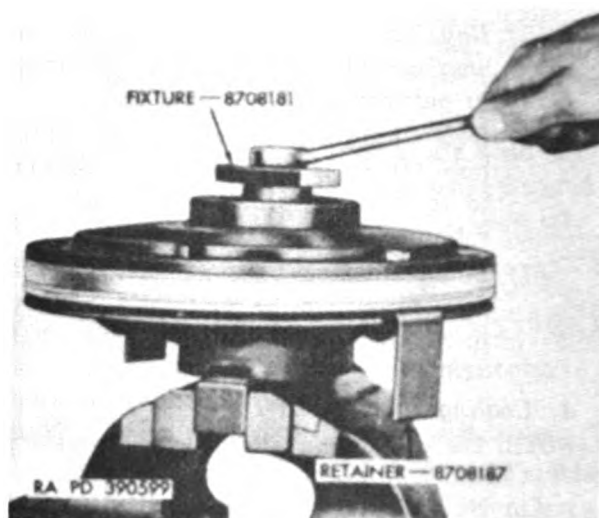

Figure 95. Assembling cooling fan drive clutch.
- (10) Clamp fixture 8708181 (fig. 95) in a vise and remove bolt and bar from fixture. Position clutch inner housing
- (11) Install three clutch springs (D-16) and fifteen $\frac{5}{8}$ -inch balls (D-19) in recesses of clutch inner housing.
- (12) Aline outer housing dowel pins with dowel pin holes in inner housing and install outer housing group, with retainers, on inner housing, over balls and springs.
- (13) Install bar of fixture over center hole of outer housing. Install bolt through bar and housing and screw bolt into threaded hole in bottom of fixture to compress housings together as shown in figure 95.
- (14) Install four $\frac{1}{4} \times 1\frac{23}{64}$ hex-head bolts (D-18), with heads of bolts against inner housing, in holes provided and secure bolts with $\frac{1}{4}$ -inch slotted hex nuts (D-5). Tighten nuts only finger-tight.
- (15) Withdraw two retainers 8708187 (fig. 95) with hex-head bolts (G) from the assembly and tighten the $\frac{1}{4}$ -inch hex nuts, installed in (14) above, securely. Secure nuts with $\frac{1}{16} \times \frac{1}{2}$ cotter pins (D-4).
- (16) Remove bolt from fixture and bar. Remove bar from clutch assembly. Re-